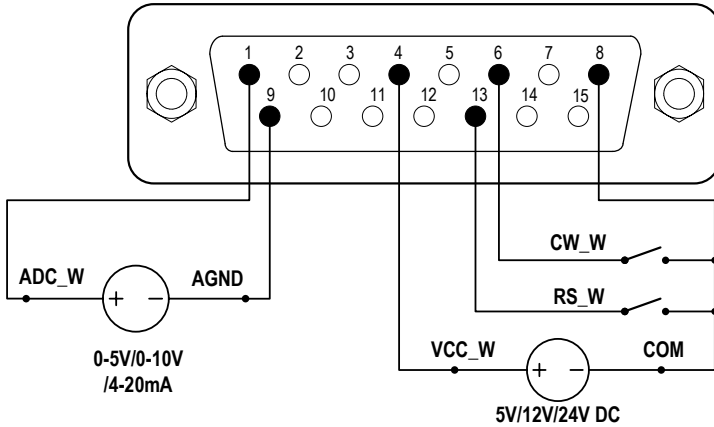
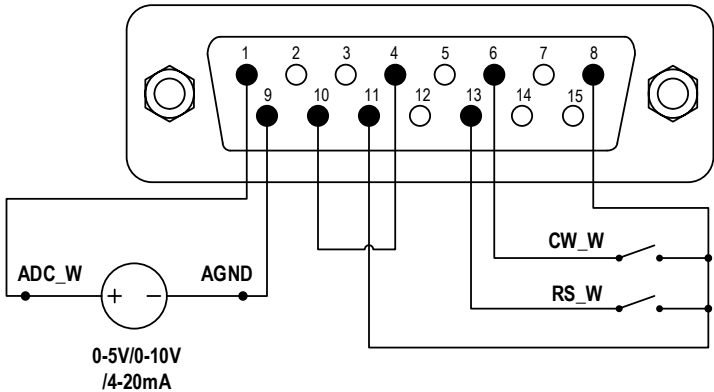

Figure 14. DB15 Wiring with an External Power Source
Figure 15. DB15 Wiring with the Internal 12VDC Power Source
- 1) Switch the power off. Wire the DB15 connector as shown in Figure 14 or Figure 15. Connect it to the DB15 port on the rear of the pump.